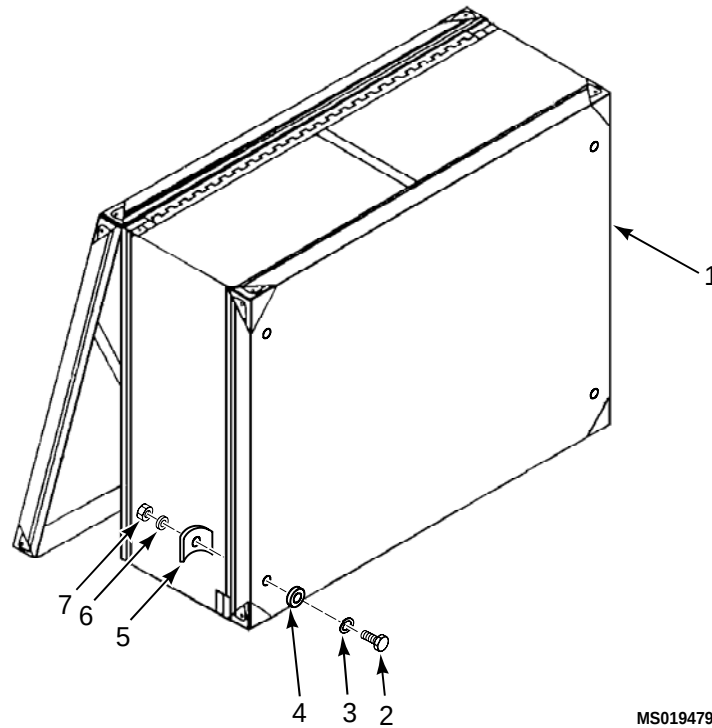

Figure 6. Installation of Side Boxes
7. Attach sidebox (1) in place using 4 bolts (2) and 4 lock washers (3) inside main box; 4 rubber washers (4) between main box and side box (1); and 4 curved backing plates (5), 4 flat washers (6) and 4 nuts (7) inside side box (1). (Figure 6)